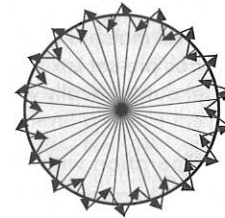

FIG.18
- 4.4.1.4 Walk from outside across to the detection pattern until red LED or green LED turns on for approx. 2sec then off, the next trigger should be 2sec interval (See FIG.18).
- 4.4.2.5 Walk from outside across to the detection pattern until load turns on for approx. 2sec then off, the next trigger should be 2sec interval (See FIG.18).